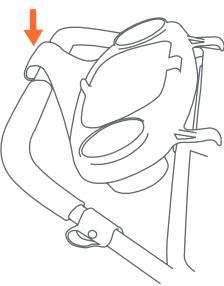

Fig. 7a
- 7) • **To attach parent tray:** Snap the upper portion of the tray over the handle (Fig 7a).